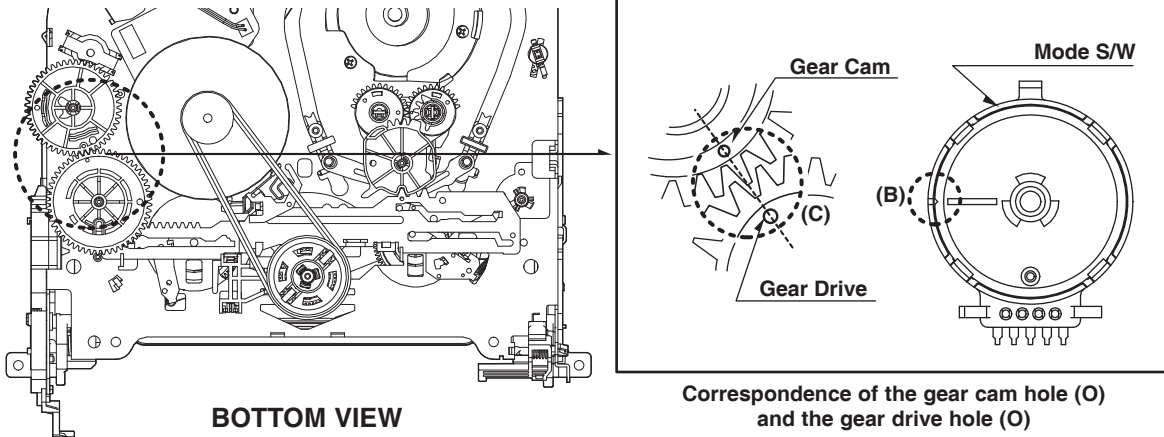
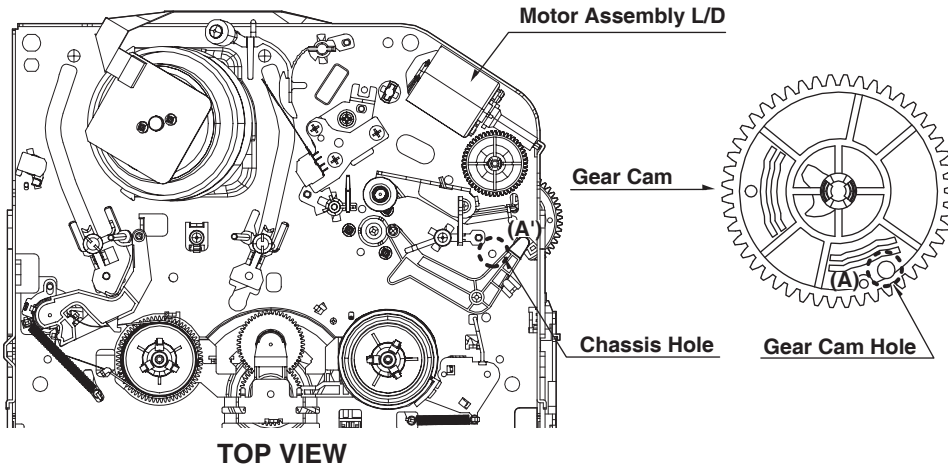

Fig. C-1
Fig. C-2
1) Turn the VCR on and take the tape out by pressing the eject button. 2) Separate both top cover and plate top, and check both the hole (A) of gear cam and the hole (A') of chassis correspond (Fig. C-2). 3) If it is done as in the paragraph 2): Turn the gear cam as in No.2) after dismantling the motor assembly L/D.	4) Undo the screw fixing the deck and the main frame, and separate the deck assembly. Check both the hole (A) of gear cam and the hole (A') of chassis correspond (Fig. C-1). 5) Check the mode S/W on the main P.C. board locates at a proper position as in (B) of the Fig. (C-1). 6) Connect the deck to the main P.C. board and perform all types of test.